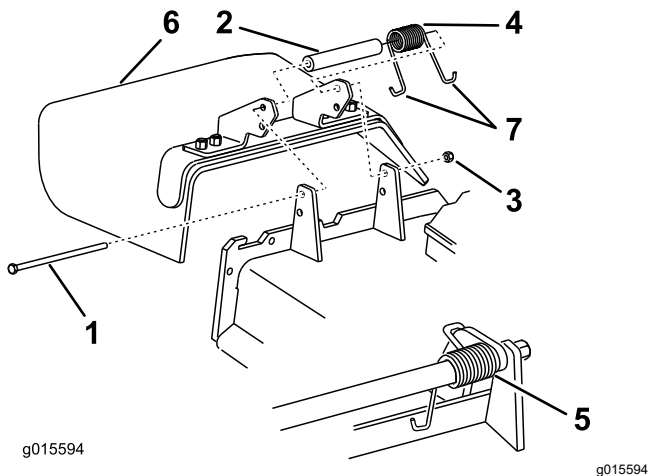

Figure 86
**Note:** Make sure that 1 J-hook end of spring is installed behind deck edge before installing the bolt as shown in Figure 86.